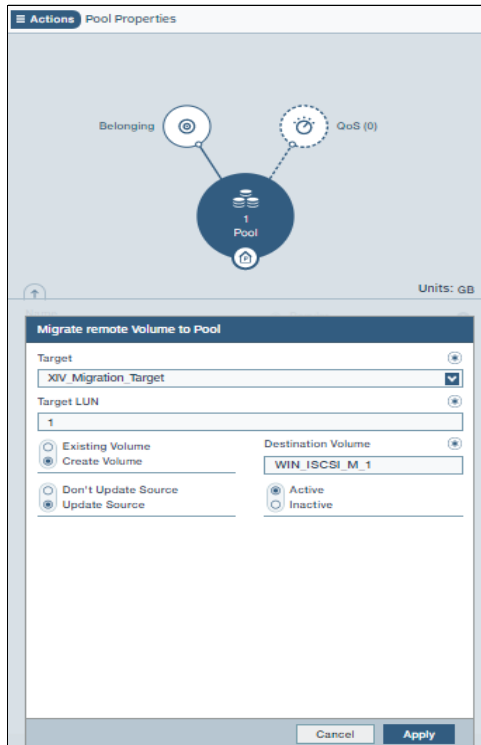

Figure 8-19 Creating migration volumes in IBM FlashSystem A9000
3. Select the settings for the following entries, as shown in Figure 8-19 on page 186:
If you selected **Inactive** in the Pool Properties window as depicted in Figure 8-19 on page 186 when creating the migration volumes on IBM FlashSystem A9000, you must start the migration process manually. When the data migration is initiated, the data is copied sequentially in the background from the XIV Storage System to IBM FlashSystem A9000.